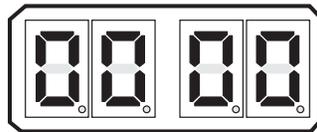

Figure 10-11: Display Station A/D's No Station Transfer Button Depressed
- Depress the Up or Down (scroll) Push Button until four zeroes are displayed without decimal points as shown in Figure 10-11: Display Station A/D's No Station Transfer Button Depressed.